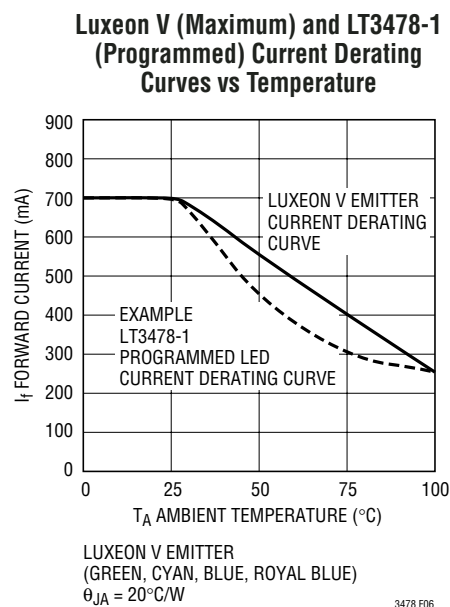
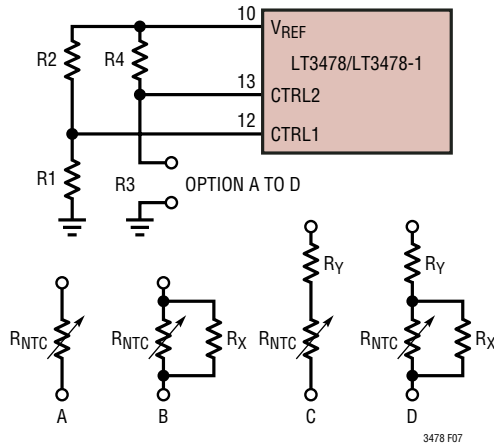
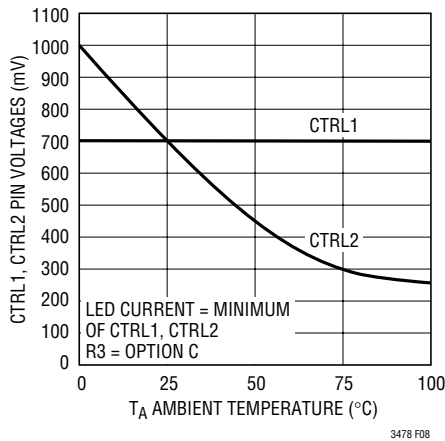

Figure 6. LED Current Derating Curve vs Ambient Temperature
Figure 7. Programming LED Current Derating Curve vs Temperature (R_{NTC} Located on LEDs PCB)
Figure 8. CTRL1, 2 Programmed Voltages vs Temperature
maximum allowed LED current versus temperature to warn against exceeding this current limit and damaging the LED (Figure 6).
Without the ability to back off LED current as temperature increases, many LED drivers are limited to driving the LED(s) at only 50% or less of their maximum rated currents. This limitation requires more LEDs to obtain the intended brightness for the application. The LT3478/LT3478-1 allow the output LED(s) to be programmed for maximum allowable current while still protecting the LED(s) from excessive currents at high temperature. This is achieved by programming a voltage at the CTRL2 pin with a negative temperature coefficient using a resistor divider with temperature dependent resistance (Figures 7 and 8). CTRL2 voltage is programmed higher than CTRL1 voltage. This allows initial LED current to be defined by CTRL1. As temperature increases, CTRL2 voltage will fall below CTRL1 voltage causing LED currents to be controlled by CTRL2 pin voltage. The choice of resistor ratios and use of temperature dependent resistance in the divider for the CTRL2 pin will define the LED current curve breakpoint and slope versus temperature (Figure 8).
CTRL2 to achieve the desired CTRL2 curve vs temperature. The current derating curve shown in Figure 6 uses the resistor network shown in option C of Figure 7.
If calculation of CTRL2 voltage at various temperatures gives a downward slope that is too strong, alternative resistor networks can be chosen (B, C, D in Figure 7) which use temperature independent resistance to reduce the effects of the NTC resistor over temperature.
The following example uses hand calculations to derive the resistor values required for CTRL1 and CTRL2 pin voltages to achieve a given LED current derating curve. The resistor values obtained using the Murata simulation tool are also provided and were used to create the derating curve shown in Figure 6. The simulation tool illustrates the non-linear nature of the NTC resistor temperature coefficient at temperatures exceeding 50°C ambient. In addition, the resistor divider technique using an NTC resistor to derive CTRL2 voltage inherently has a flattening characteristic (reduced downward slope) at higher temperatures. To avoid LED current exceeding a maximum
Step 2: Choose resistor network option A (Figure 7) and CTRL2 = CTRL1 for 25°C breakpoint
Step 4: Calculate the resistor value required for R_Y in resistor network option (c) (Figure 7) to provide an I_{LED} slope of $-200\text{mA}/25^\circ\text{C}$ between 25°C and 50°C ambient temperature.